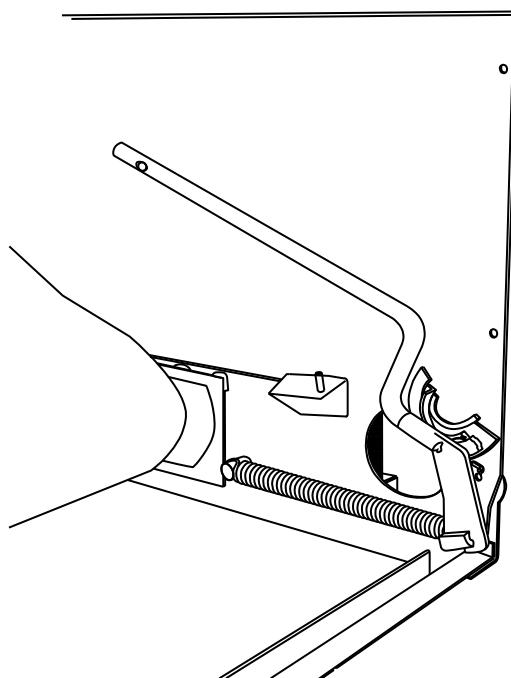

Figure 4.2-36
- a. Place the belt installation tool flag (792-502-002) onto the bearing support assembly (see Figure 4.2-36).
- a. Place the flag on the belt installation tool, and hook the tool on the bearing support assembly as shown in Figure 4.2-36.